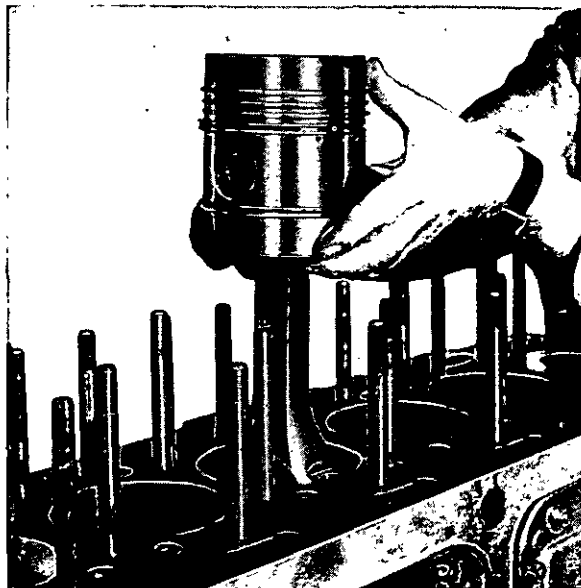

Fig. F.2.
5. Push pistons and connecting rods out of the top of the cylinders (Fig. F.2).